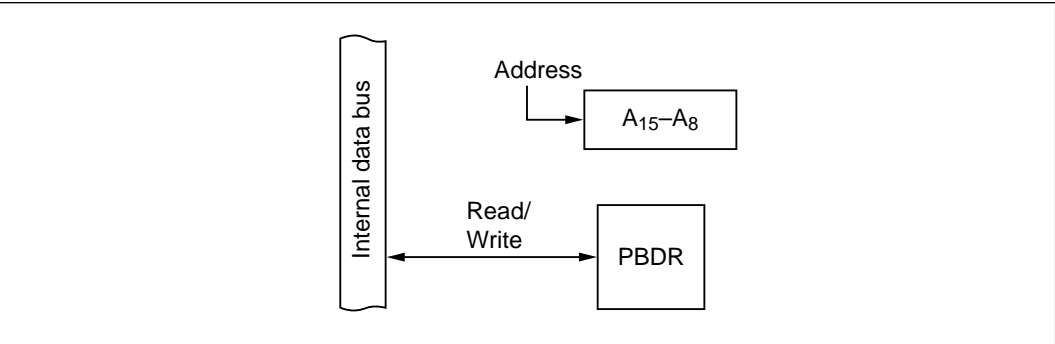

Figure 10-81 Address Bus (Modes 1 to 6)
(4) Address Bus (All Pins: Modes 1 to 6): Figure 10-81 shows a block diagram illustrating the address-bus function. Table 10-62 indicates register read/write data. When port B is used as an address bus, values written in the port B data register (PBDR) have no effect on the bus lines. When read, PBDR returns the value written in PBDR.